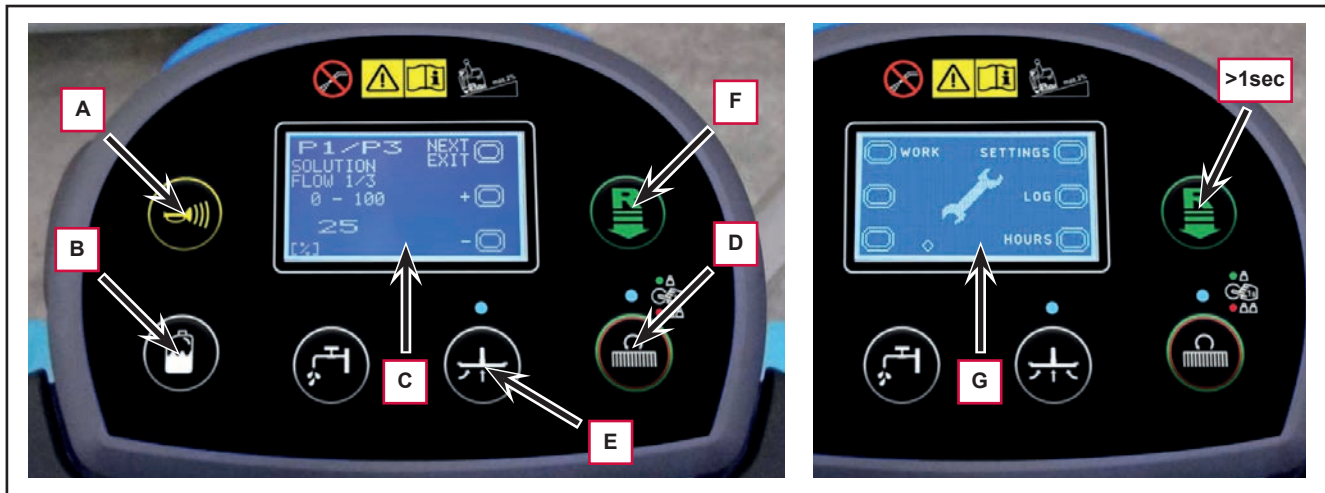

Figure 6
1. Turn the ignition key to “I” holding down both the horn button (A, Figure 6) together with the adjustment percentage detergent button (B) to going at the function parameters screen (C).
2. Press the reverse button (F) until you reach the BAT parameter.